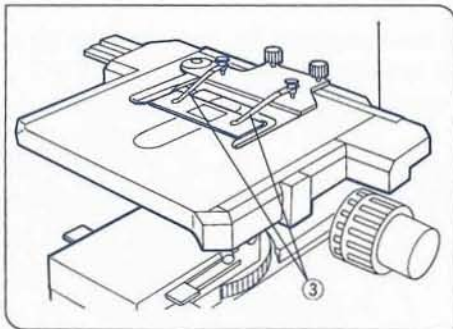

Fig. 27
Adsorption of immersion oil can cause the specimen to float. In such cases, it is recommended to use the optional specimen clip (BH2-SCB-3) for oil immersion objectives ③. (Fig. 27)